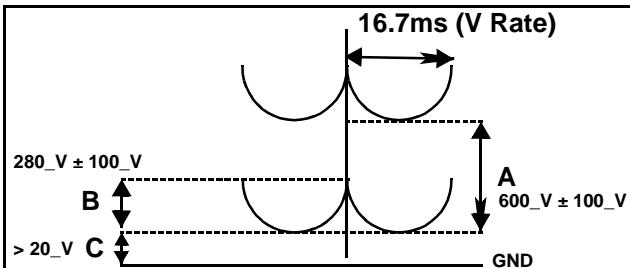

Figure 22. D. Focus Adjustment Waveform
- Confirm that the waveform shown in D appears (See Fig. 22)